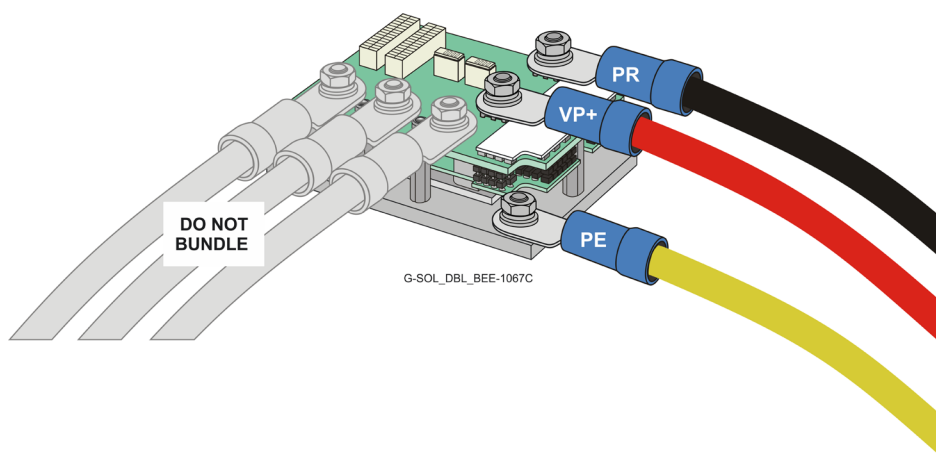

Figure 10: Connecting the Main Power Wires
3. Connect the VP+ and PR wires to the terminals on the servo-drive as shown in Figure 10.